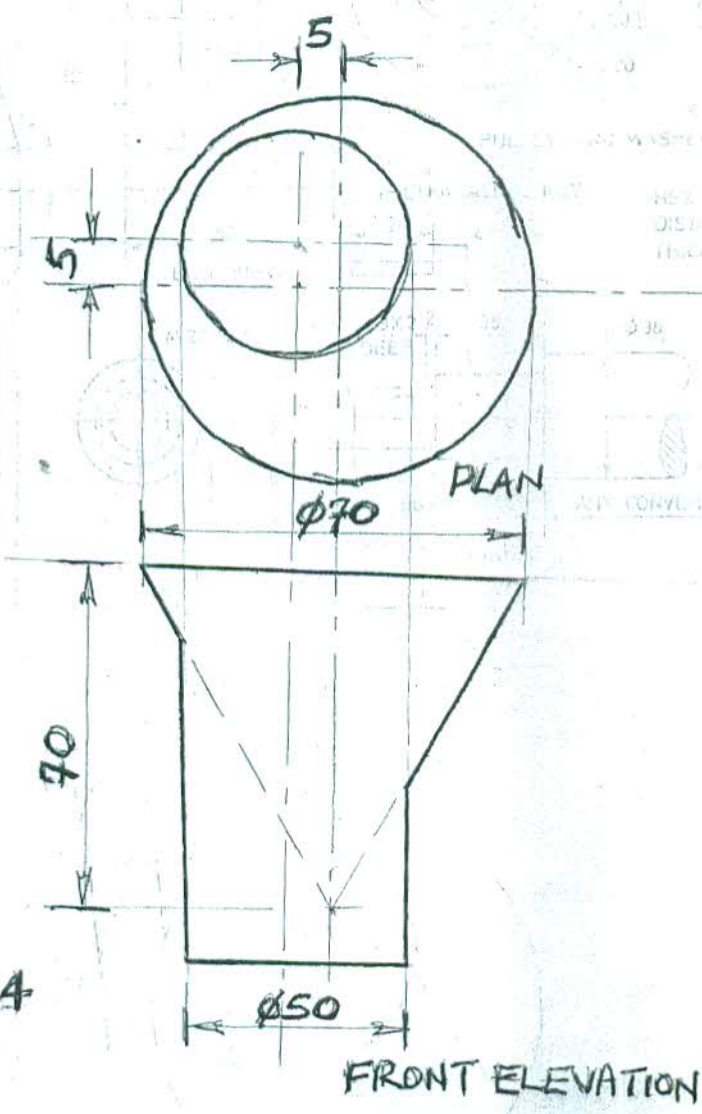

Figure 4
6. A delivery spout is made up of a conic section and a cylindrical part as shown in Figure 4. Reproduce the given elevations, determine the joint line and develop the pattern for the conic section.